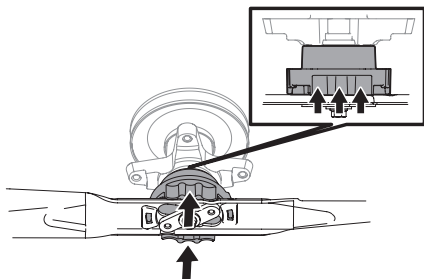

Figure 43
3. Push upward on the blade collar and hold it. See Figure 43.
4. Push the blade upward against the blade adapter until the collar above rises. See Figure 43.